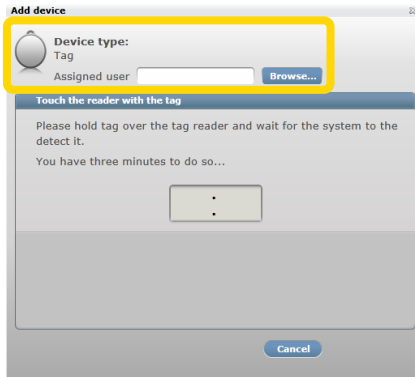

Figure 112: Add Tag Window
7. A new window will open, similar to the initial Add Tag Window (see above Figure 112), but with an added optional field allow typing of an additional label name for the Tag: